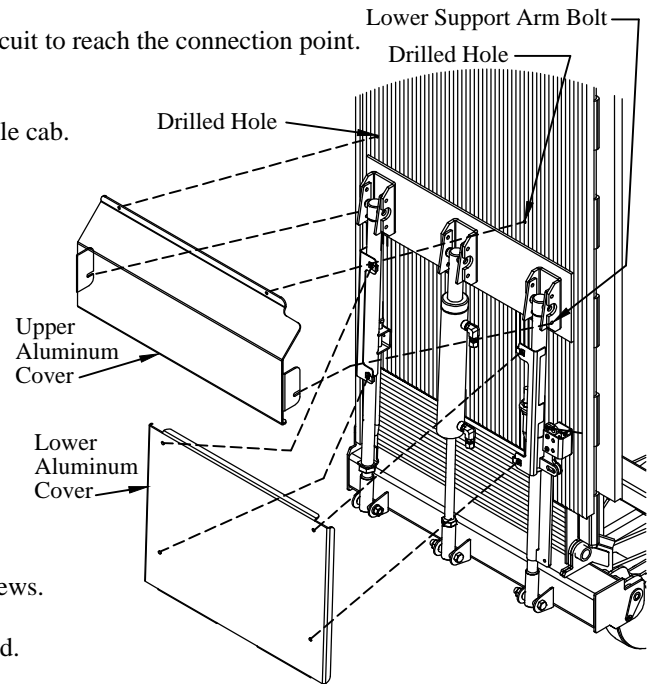
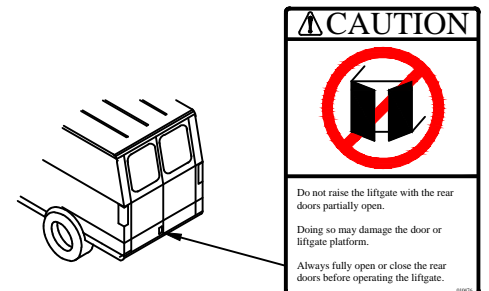

Figure 18: Aluminum cover installation.
Figure 19: Caution decal location.
7. **Install** the upper aluminum cover on the lower 5/16" support arm bolts. 5/16" flat washers should have been installed previously (Figure 18).
8. **Drill** two (2) 13/64" holes in the platform, using the holes in the aluminum cover as a guide.
9. **Install** two (2) 1/4-20 self-tapping screws in the drilled holes.
10. **Install** the lower aluminum cover using four (4) 1/4-20 self-tapping screws.
12. **Secure** the limit switch wire to the support arm and limit switch bracket using two (2) plastic zip ties. This should be done with the platform unfolded.
13. **Adhere** decal (PN 10476) to the exterior bottom right corner of the driver side rear door (Figure 19).